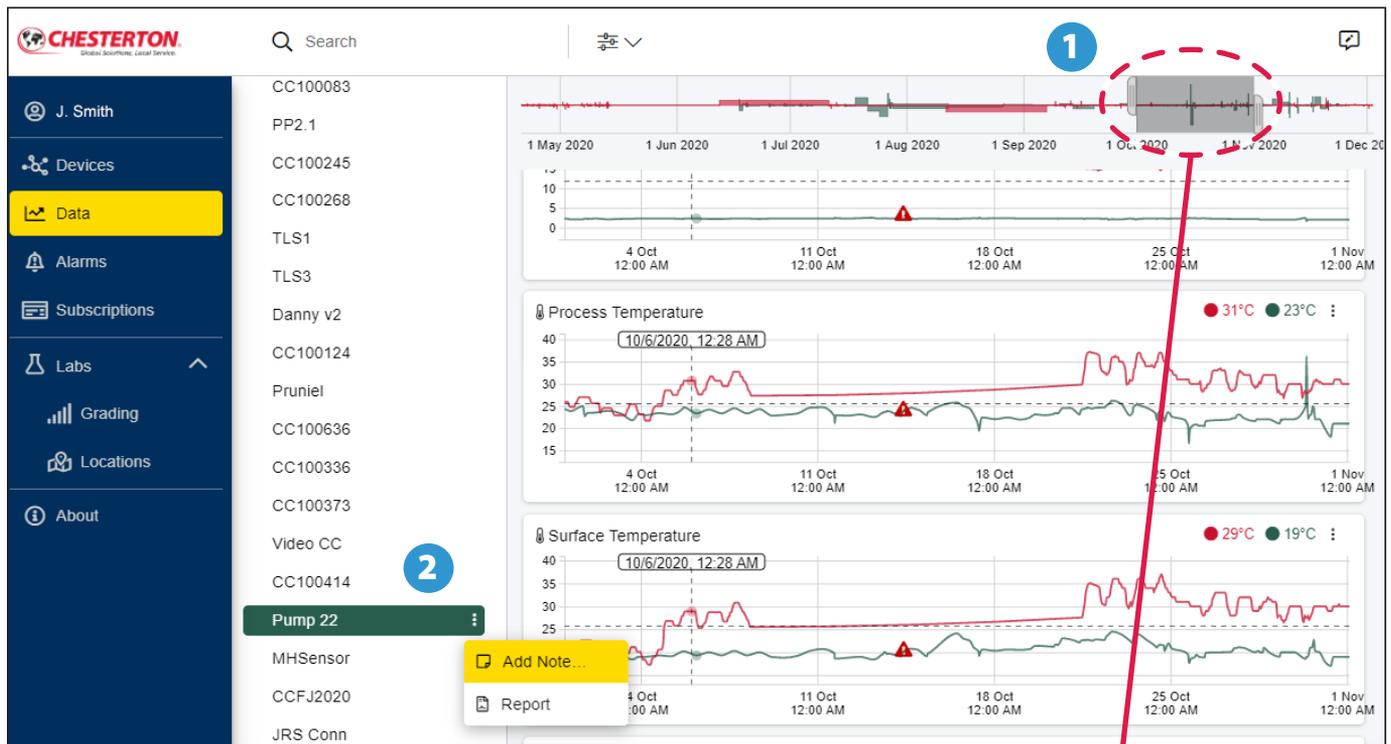

Figure 14b
- 2 Select your sensor and click on the three dot icon, on the right side of the sensor, to **Add Note** (see figure 14b).